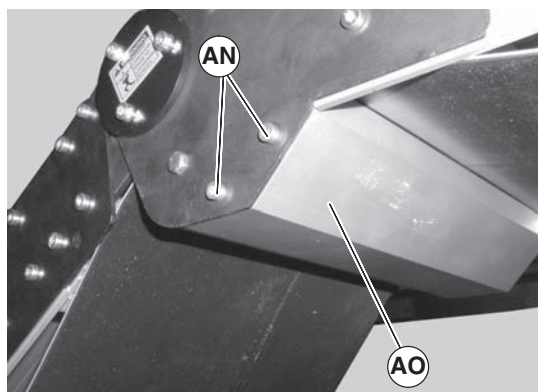

**Figure 22**
4. On tension end of the conveyor, identified by the pinion locking screw (Figure 22, item T), push in head plate assembly (V): Loosen the pinion locking screw (T), adjust the pinion torque screw (Figure 23, item W). On both sides of conveyor, loosen the two tail clamp bolts (Figure 22, item U), and push head plate assembly (V) inward.